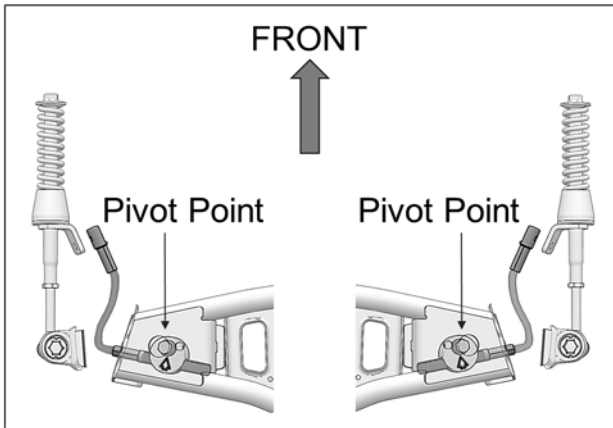

Fig. 28
19. Make sure aluminum disk pivot point is installed in front of steering limiter cable. See Fig. 28